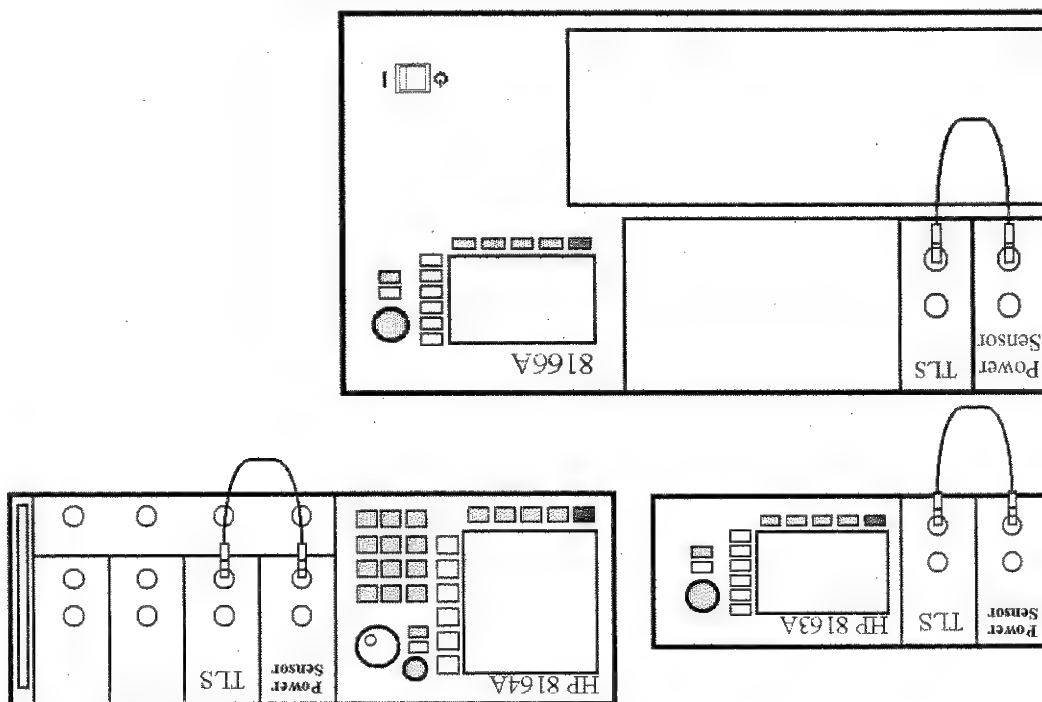

Figure 23 Connecting the Instrument for the Sample Session
- 3 Connect the output of the Laser Source to the input of the Power Sensor module, as shown in Figure 23. You must connect the correct fiber end connector for your Tunable Laser module: